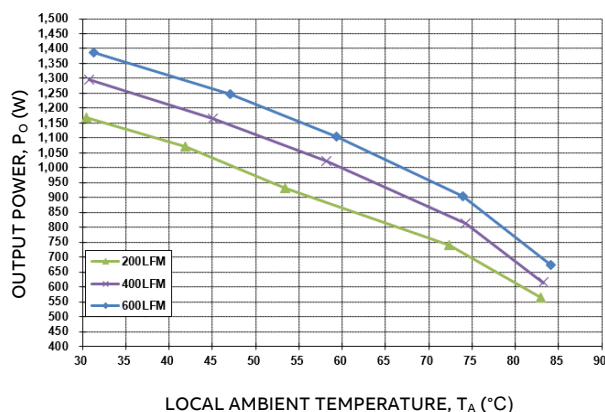

Figure 17. Output Power Derating for the Base Plate QBDS128A0B1-H; Airflow Direction for Vout to Vin(Worst) orientation; Vin = 50V.
Increased airflow over the module enhances the heat transfer via convection. The thermal derating of figure 17– 20 shows the maximum output current that can be delivered by each module in the indicated orientation without exceeding the maximum TH1 temperature versus local ambient temperature (TA) for several air flow conditions.